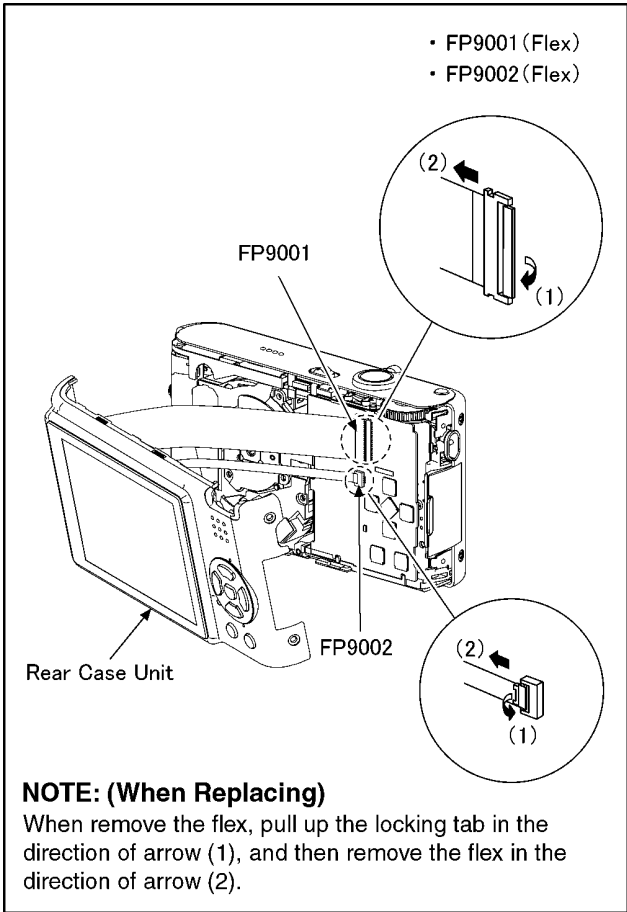

Fig. D2
|     |                                     | Fig. D2            | 4 Screws (A)                                   |